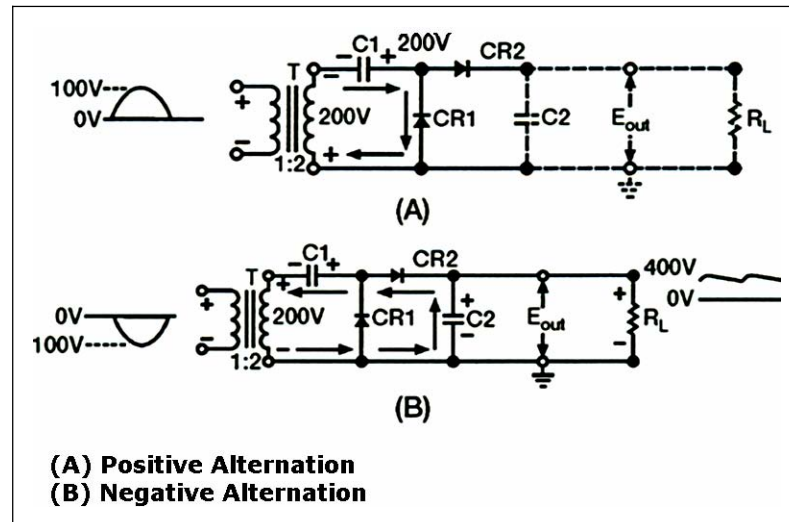
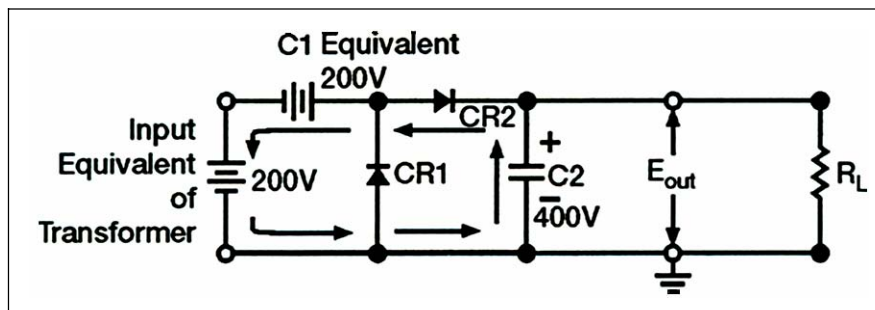
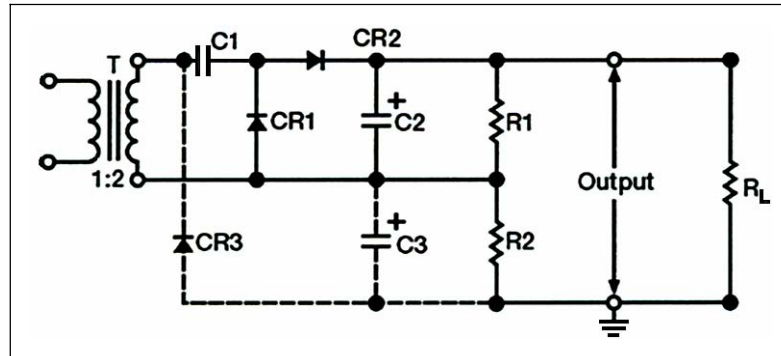

Figure 4-45. Rectifier Action of CR1 and CR2
Figure 4-46. Series-aiding Sources
Figure 4-47. Half-wave Voltage Tripler
4-125. The dark lines in Figure 4-45, view (A) show the schematic of the first half-wave rectifier. The dotted lines and associated components represent the other half-wave rectifier and load resistor. Notice that C1 and CR1 works exactly like a half-wave rectifier. During
the positive alternation of the input cycle (Figure 4-45, view A), the polarity across the secondary winding of the transformer is as shown. Notice that the top of the secondary is negative. At this time, CR1 is forward biased (cathode negative in respect to the anode). This forward bias causes CR1 to function like a closed switch and allows current to follow the path indicated by the arrows. Also at this time, C1 charges to the peak value of the input voltage, or 200 volts, with the polarity shown.
4-126. During the period when the input cycle is negative (Figure 4-45, view (B)), the polarity across the secondary of the transformer is reversed. Notice specifically that the top of the secondary winding is now positive. This condition now forward biases CR2 and reverse biases CR1. A series circuit now exists consisting of C1, CR2, C2, and the secondary of the transformer. The arrows indicate the current flow. The secondary voltage of the transformer now aids the voltage on C1. This results in a pulsating DC voltage of 400 volts, as shown by the waveform. The effect of series aiding is almost the same as the connection of two 200-volt batteries in series. Figure 4-46 shows the C2 charges to the sum of these voltages, or 400 volts.
4-127. Figure 4-47 shows the schematic of a half-wave voltage tripler. When comparing Figures 4-46 and 4-47, you should see that the circuitry is identical except for the additional parts, components, and circuitry shown by the dotted lines (CR3, C3, and R2 make up the additional circuitry). By themselves, CR3, C3, and R2 make up a half-wave